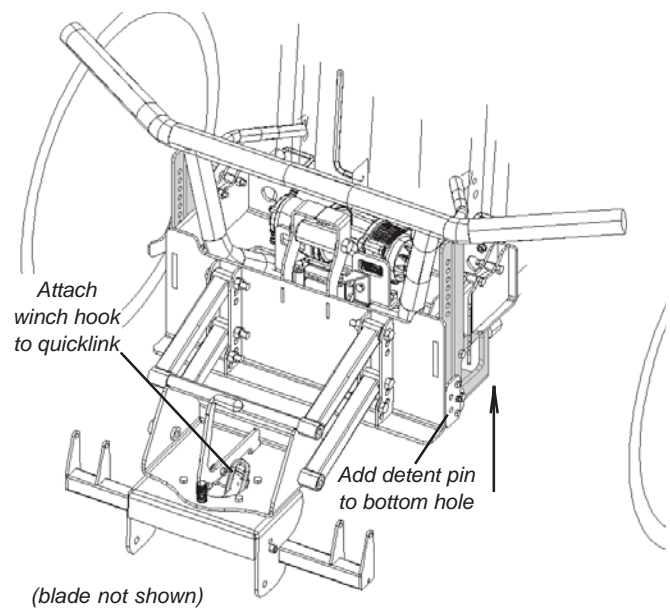

Figure 30 Attach plow to vehicle
8. Pull the detent pin out in one of the legs, firmly slide and lift the stand until it locks fully into the plow mount, place the detent pin back into the bottom hole in the plow support. See Figure 30. Repeat on the other side.
4. Pull the detent pin out in one of the stands, lift the stand until it locks fully into the plow mount, place the detent pin back into the bottom hole in the plow support. See Figure 30. Repeat on the other side.
6. Attach the winch hook onto the quicklink located on the plow base. See Figure 30.